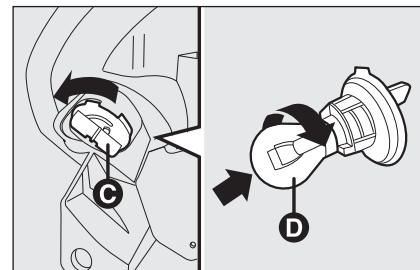

fig. 19/b
- ☐ remove the bulb holder cover **C**-fig. 19/b by turning it anti-clockwise;
- ☐ close the flap **B**-fig. 19/a and then turn the catch **A**.